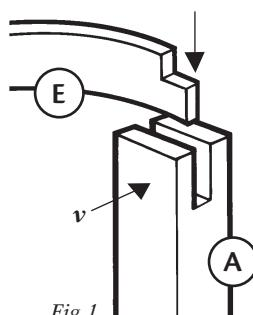

Fig.1
- Site two of the Posts (A) in the holes but do not fix yet.
- Take one of the Curved Beams (E) and fix from the inside of the circle into the post (as Fig.1) using screws (v).